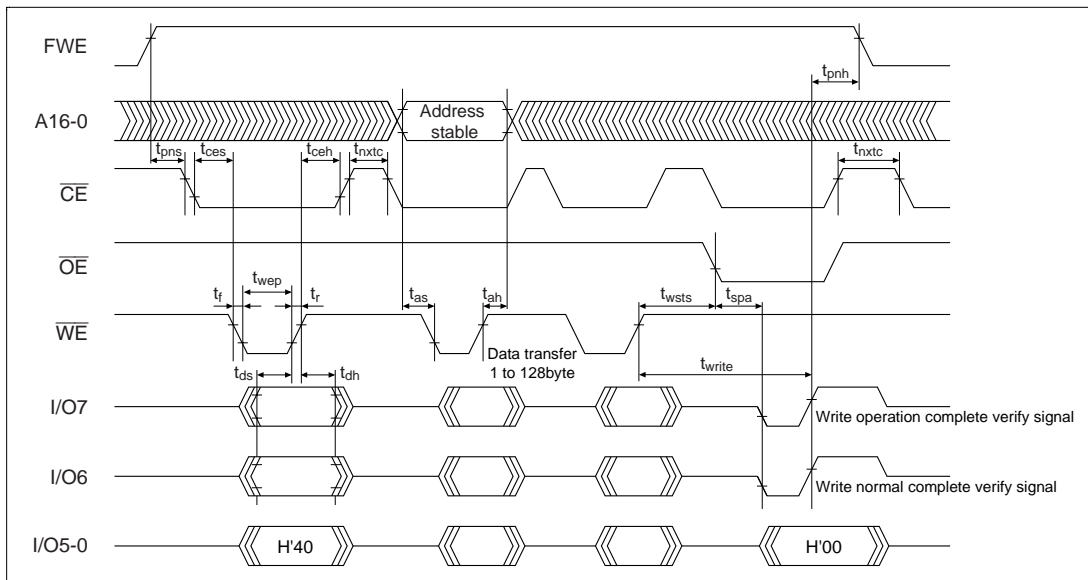

Figure 18.18 Auto-Program Mode Timing Waveforms
4. Memory address transfer is performed in the third cycle (figure 18.18). Do not perform transfer after the second cycle.